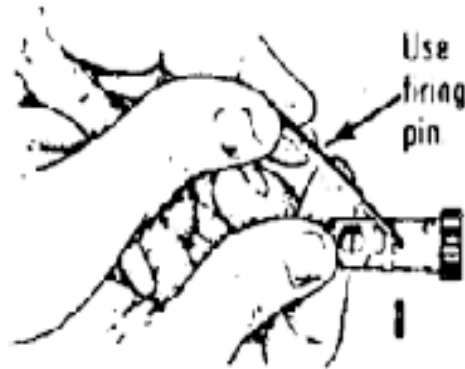

Figure E-17. Removing the extractor pin.
- o. Remove the extractor pin by pushing it out with the firing pin (use care not to damage the firing pin) (figure E-17).